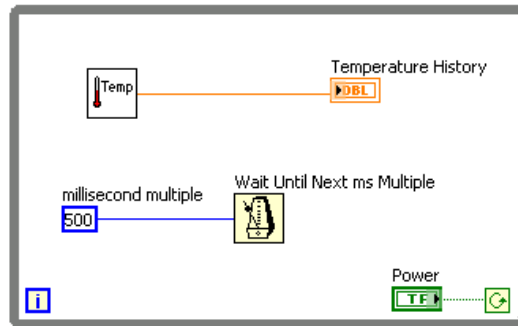

Figure 5.6
2. Enclose the two terminals in a While Loop, as shown in the block diagram (Figure 5.6).
4. Wire the objects as shown in Figure 5.6.